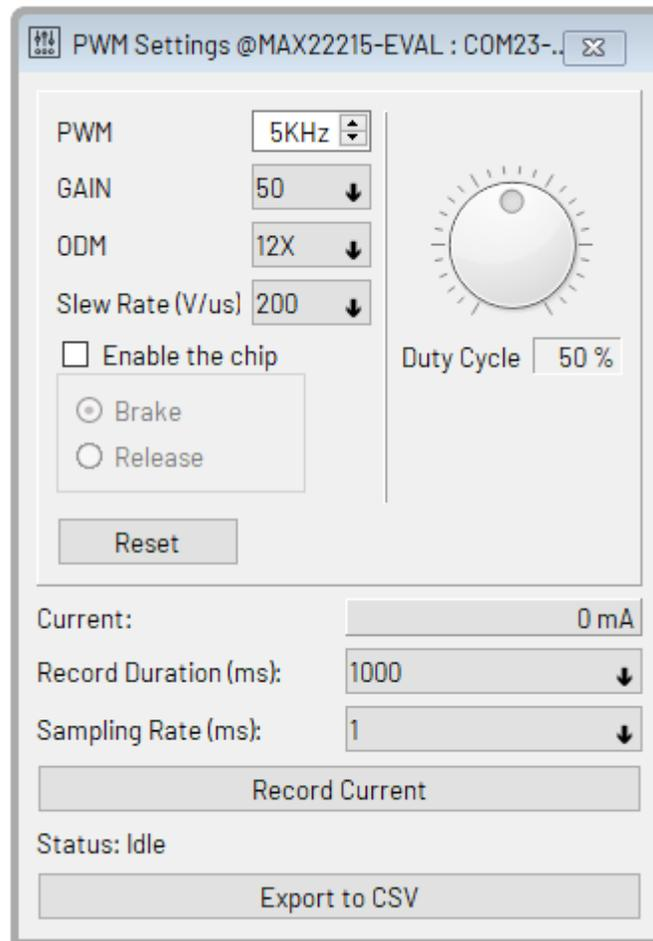

Figure 4. MAX22215 PWM Settings Window
10. **PWM Settings tool** (Figure 4): This tool is designed for real-time current measurement (ISEN pin) by setting the PWM frequency and duty cycle. The PWM tool offers recording of the current measurement and exporting the data to a CSV file. Use the following steps to operate the tool: